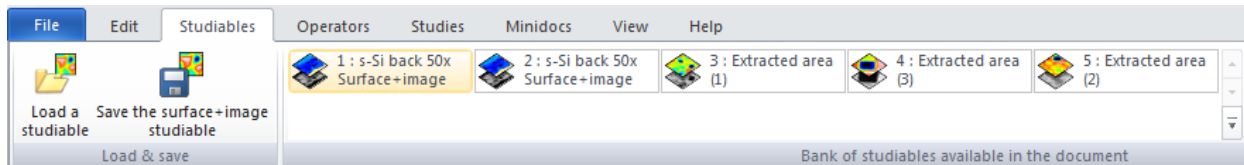

Figure 1: Load a studiable under *Studiabiles* on the ribbon tool bar.
2. Load a desired studiable (*.plu file obtained from LeicaSCAN DCM3D). See **Figure 1**.